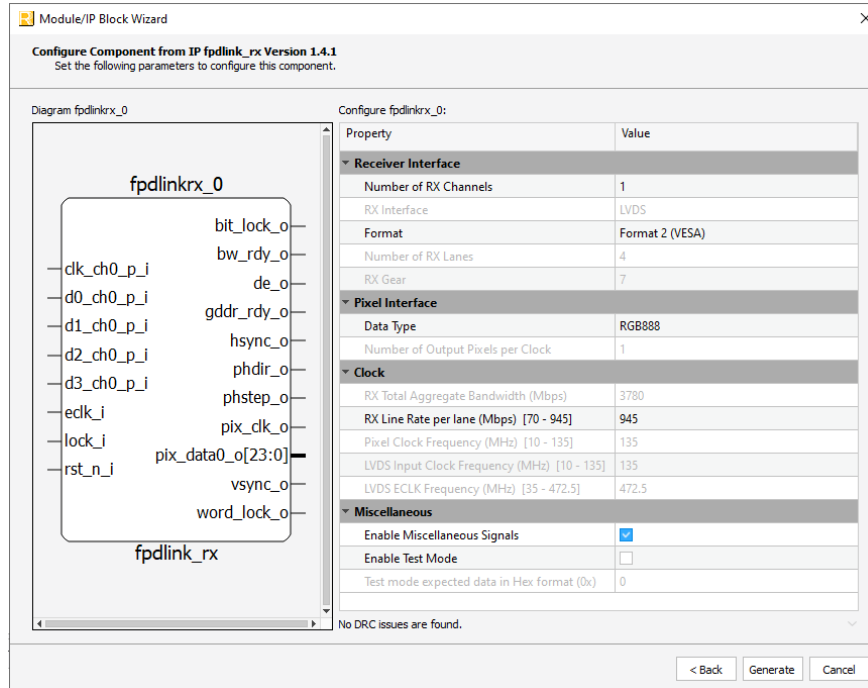

Figure 3.2. Configure User Interface of Selected OpenLDI/FPD-LINK/LVDS Receiver IP Core
4. In the module’s dialog box of the **Module/IP Block Wizard** window, customize the selected OpenLDI/FPD-LINK/LVDS Receiver IP Core using drop-down menus and check boxes. As a sample configuration, see Figure 3.2. For configuration options, see the Attribute Summary section.